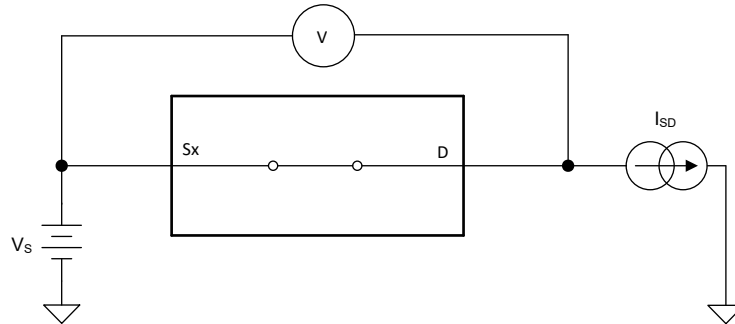

图 7. On-Resistance Measurement Setup
The on-resistance of a device is the ohmic resistance between the source (Sx) and drain (D) pins of the device. The on-resistance varies with input voltage and supply voltage. The symbol  $R_{ON}$  is used to denote on-resistance. The measurement setup used to measure  $R_{ON}$  is shown below. Voltage (V) and current ( $I_{SD}$ ) are measured using this setup, and  $R_{ON}$  is computed as shown in 图 7 with  $R_{ON} = V / I_{SD}$ :